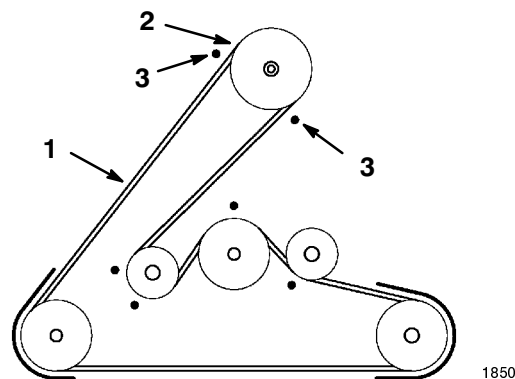

Figure 44
4. Install mower belt onto the lower engine pulley (Fig. 44). If you are careful, you can flex the belt guide(s) just far enough away from the pulley to install the belt. If it is too difficult to install the belt, loosen the bolts and nuts securing the belt guides.